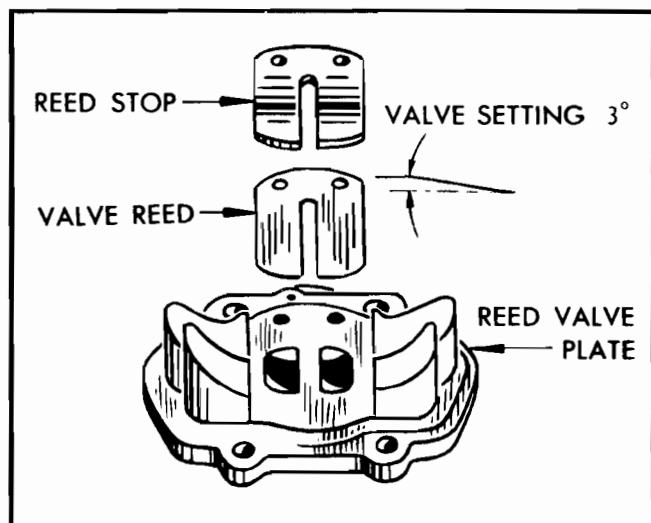

Figure No. 35—2-Cycle Reed Valve Assembly
3. The Reed Valves are among the most important parts of the two cycle engine. If they are not set and working properly, the following trouble signs may develop: (See Figure No. 35)